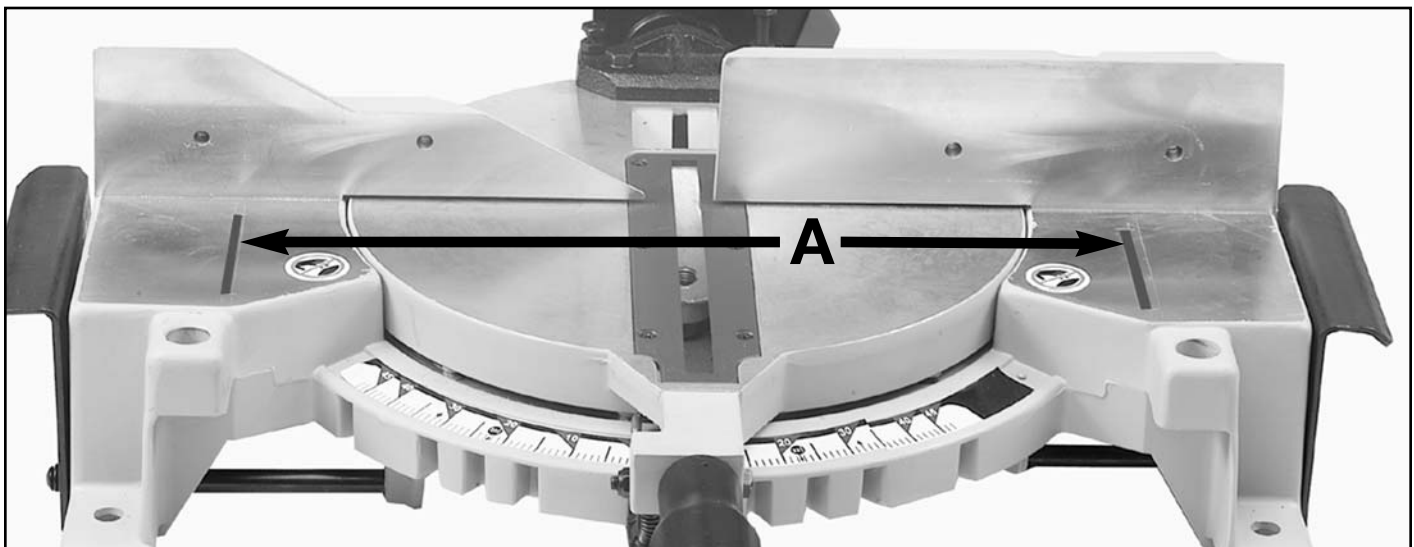

Fig. 9A
**⚠ WARNING: THE AREA INSIDE THE TWO RED LINES (A) FIG. 9A, ON THE TABLE IS DESIGNATED AS A HAZARD ZONE. NEVER PLACE YOUR HANDS INSIDE THIS AREA WHILE THE TOOL IS BEING OPERATED.**